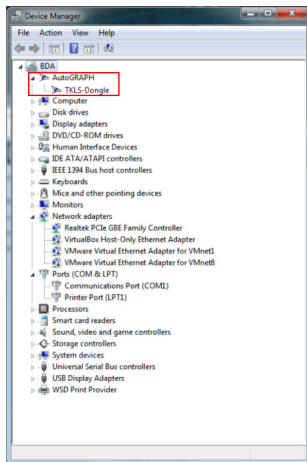

Fig.4. TKLS-Prog-232 is connected.
- install the driver. After the installation the connected device will be recognized (Fig.4).